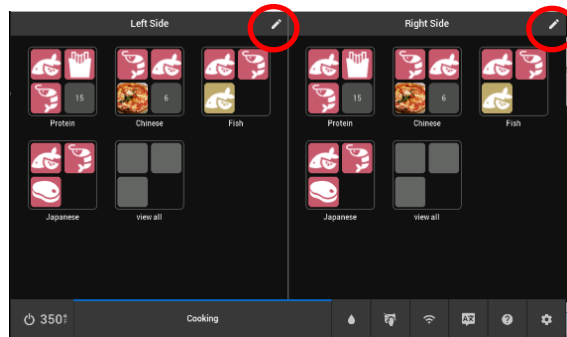

Figure 31 - Edit Group
- Click  on **Figure 31** at the top right corner of the lane of the desired group to edit: **Group Name, Edit Recipes or Remove Group**